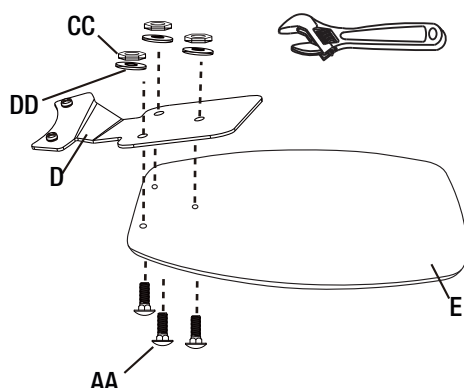

Figure 6
- Mount the blade holders (D) to the fan blades (E) using the square neck screws (AA), hex nuts (CC) and flat washers (DD) provided - 3 each per blade (Figure 6).